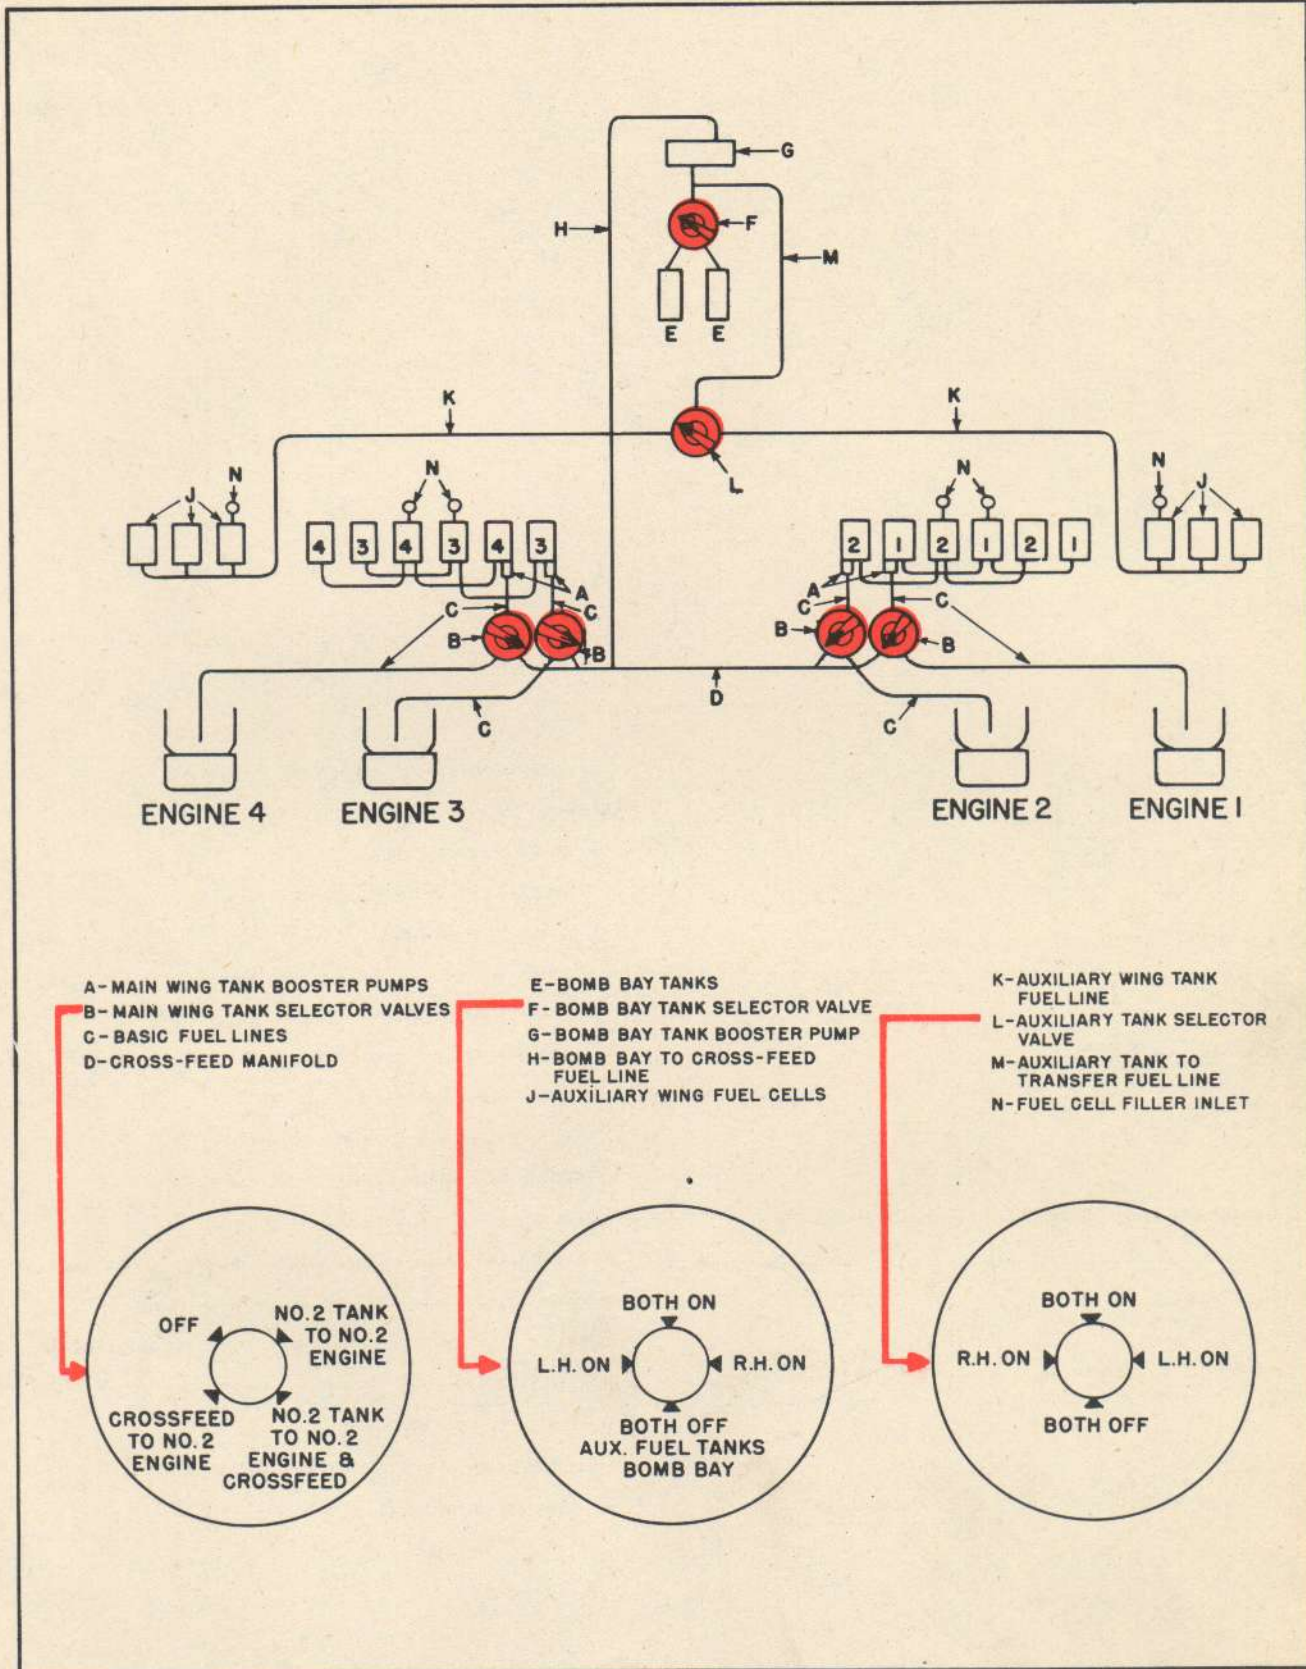

Figure 10—Fuel System Diagram, Group II Airplanes
c. FUEL SYSTEM. (See figures 10 and 11.)
(1) The main fuel system has 12 self-sealing fuel cells installed in the wing center sections so connected as to create four separate tanks, each having three interconnected cells. Four booster pumps are installed on the lower wing structure at the bottom of the four inboard cells. Four main selector valves are mounted as follows: